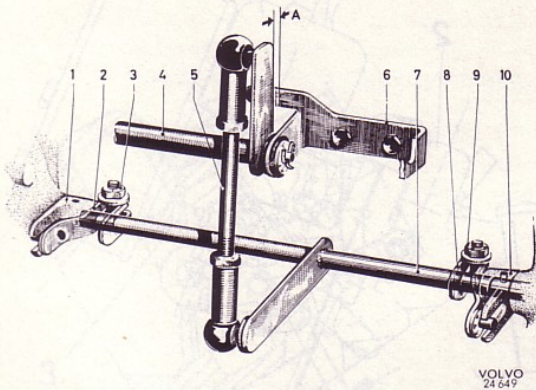
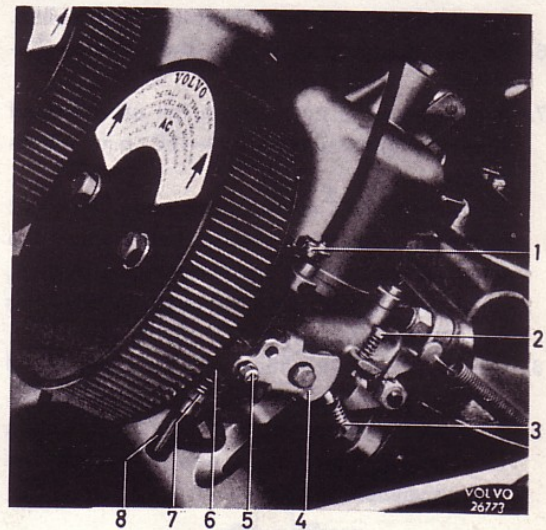

Fig. 30. Intermediate shaft and levers
Fig. 31. Controls
2. Fit the intermediate shaft in position between the carburetors, see Fig. 30. Make sure that the protective plate is in good condition and that the sealing surfaces are clean.
1. Place a 0.5 mm feeler gauge at "A" Fig. 30 between the lever and its abutment. Screw out the fast idling and idling screws (2, Fig. 31) so that the throttle flap is fully closed.
2. Loosen the lock nuts (3 and 9, Fig. 30) and press the outer end of the levers (2, 8) on the
4. Screw in the idling screws (2, Fig. 31) so that they just touch the throttle levers when the throttles are closed.
2. Loosen the screw (5, Fig. 31) for the control cable. Lift the lever so much that the jet just starts to go down.
3. Adjust the fast idle screw (3) so that it just touches the fast idle cam on the lever (4) when the jet starts to be influenced as described in the previous item. Tighten the locking screw for the control cable in this position.